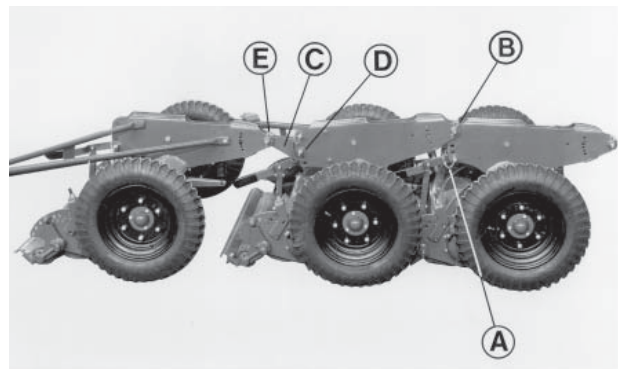

Fig 27
(Fig. 27). All drawbars and coupling frames can be quickly removed and the frame dismantled into easily transportable units. The lifting levers must be anchored in the bottom position (A) and the nose of the rear unit pinned into the top lifting lever hole (B) of the front unit. By this method a three unit or five unit mower can be coupled nose to tail and winched up to a truck or trailer.